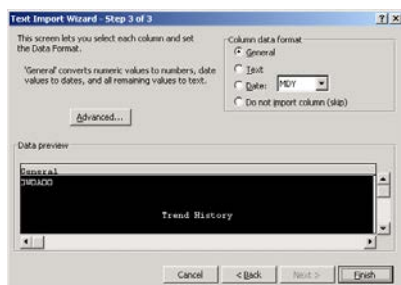

Figure 21. Specifying the Column Data Format
7. Select *Next>* to display Step 3 of the Import Wizard seen in Figure 21. Specifying the Column Data Format, below.